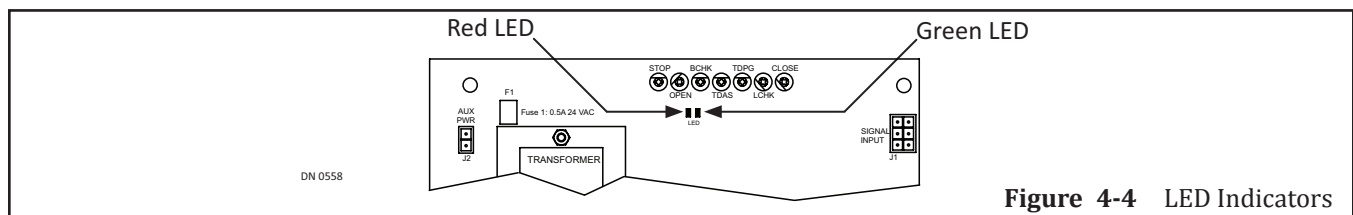

Figure 4-4 LED Indicators
(2) LED Indicators are used to display what the Magnum 4A Control *is reacting to* at any instant within the Swing door cycle. This helps to identify when the Swing door system is functioning properly. Please see Figure 4-4.